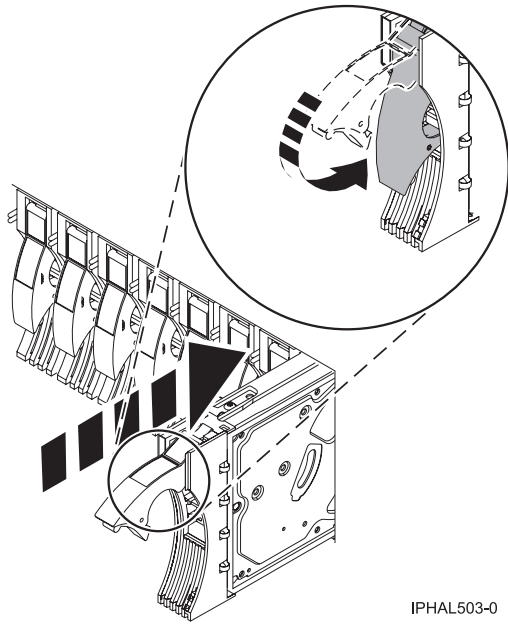

Figure 18. Sliding the disk drive in to the system unit
13. When the service indicator starts flashing, slide the disk drive all the way in and lock it in place by closing the latch, as shown in Figure 18 on page 23.